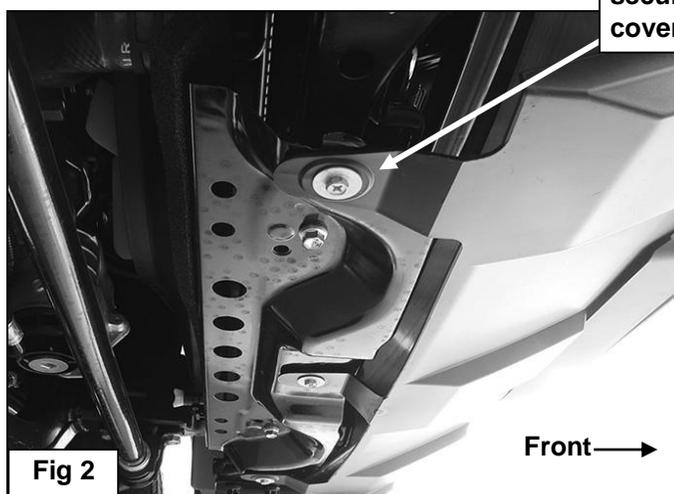

Fig 2
3. Locate the passenger side bumper bracket bolted to the end of the frame through the gap between the front bumper and the radiator or from below the bumper above the tow hook, **(Figure 1B)**. If installing from below, remove the hardware attaching the bumper cover to the cross member to access the end of the frame and bracket, **(Figure 2)**.
21. Push the Grille Guard back towards the vehicle and fully tighten all hardware, **(Figure 17 & 18)**. Reattach the bottom of the bumper cover with the factory hardware, **(Figure 2)**.